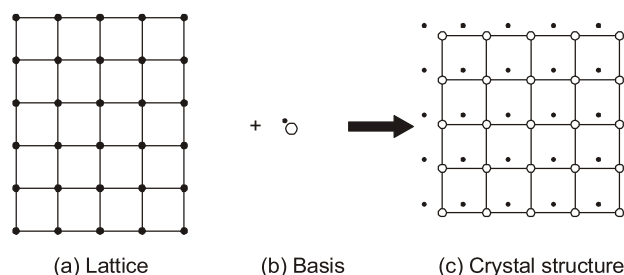

Fig. 3.3 Generation of crystal structure with lattice and basis (Motif)
- Motif or basis is an atom or a group of atoms associated with each lattice point, the generation of crystal structure from a lattice and basis is as shown in figure 3.3.